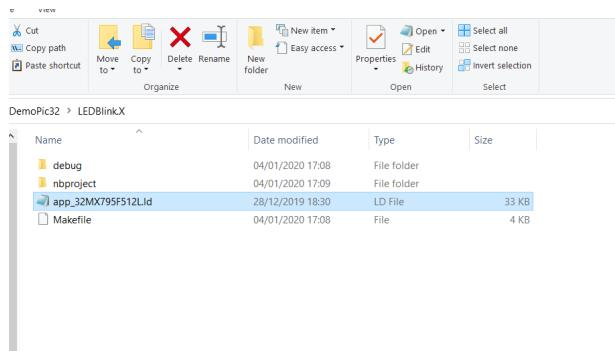

Fig. 8.1
1. If the target board comes up with a bootloader, we need to add the custom linker file provided by the board vendor. Parinati PIC32MX795 development board has on-board USB bootloader. Copy the app_32MX795F512L.ld linker file to the project folder. (Refer Fig. 8.1)